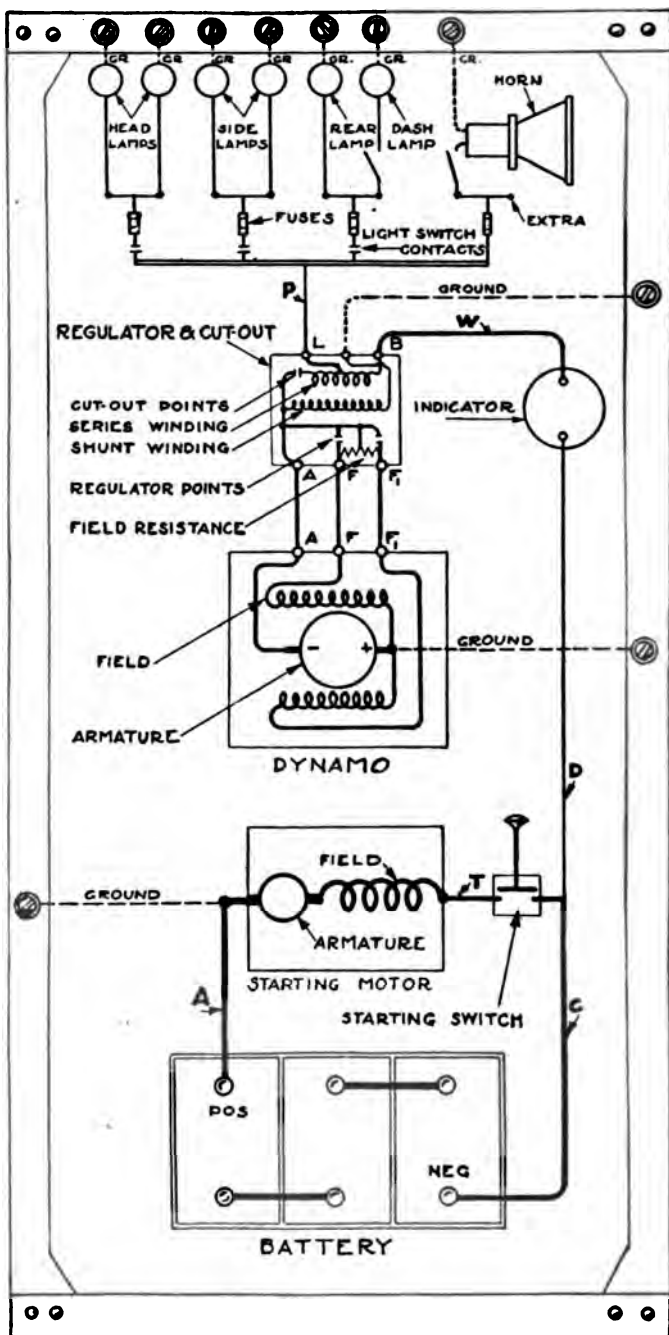

Fig. 285 Wiring Diagram for Gray & Davis Single-Wire System with Grounded Motor
*Grounded-Motor Arrangement.* Fig. 285 shows the Gray & Davis wiring diagram with grounded motor. Cable *A* from the battery positive terminal connects to the grounded terminal of the starting motor. Cable *T* connects an insulated terminal on the starting motor to one of the starting-switch terminals. Cable *C* from the starting switch terminal connects to the battery negative terminal, thus completing the circuit. On some makes of cars, cable *A* instead of